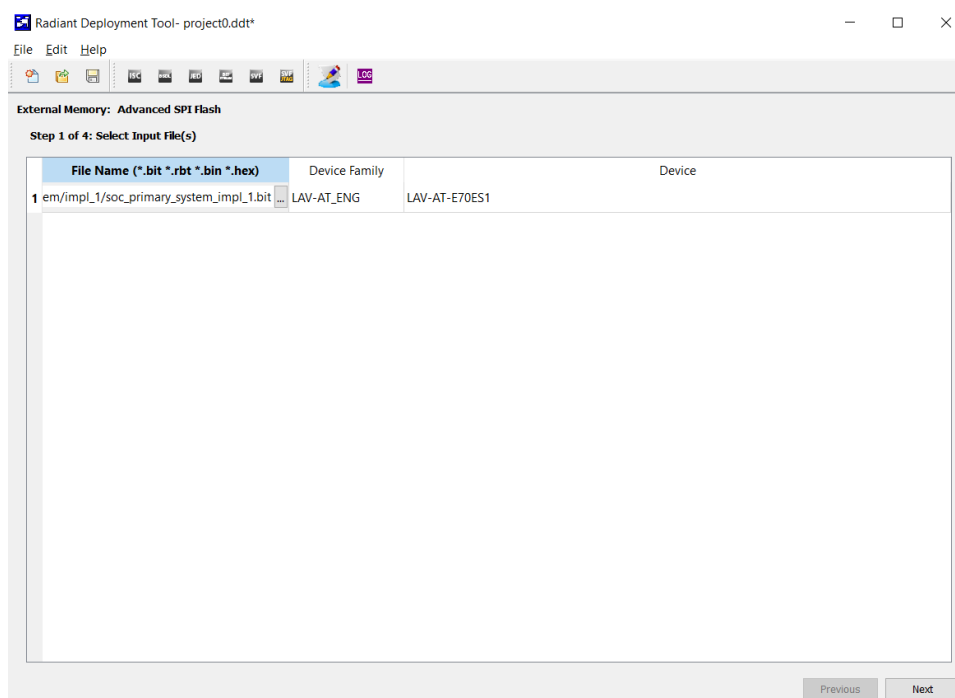

Figure 8.64. External Memory Step 1 of 4: Select Input Files
6. Step 1 of 4: Select the Input File(s) window, as shown in Figure 8.64: